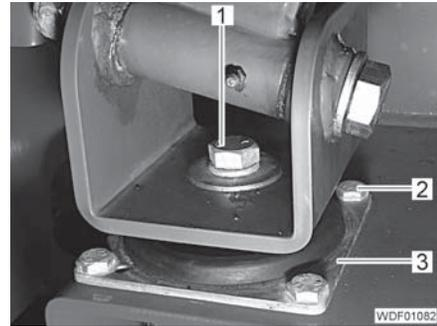

Fig. 358 Cab attachment
- Unscrew 4 screws (Fig. 358,2) on both sides.
- Loosen 1 screw (Fig. 358,1) on both sides.
- Using suitable lifting gear (e.g. a crane) carefully raise the cab at the front so that the rubber buffers (Fig. 358,3) can be removed.
- Unscrew 1 screw (Fig. 358,1) on each side and remove 1 rubber buffer (Fig. 358,3) on each side.
- Attach 1 rubber buffer (Fig. 358,3) from below to the cab on each side and screw in 1 screw (Fig. 358,1) on each side with spring lock washers and disks.
- Screw in and tighten 4 screws (Fig. 358,2) in each case.
- Tighten the screw (Fig. 358,1).